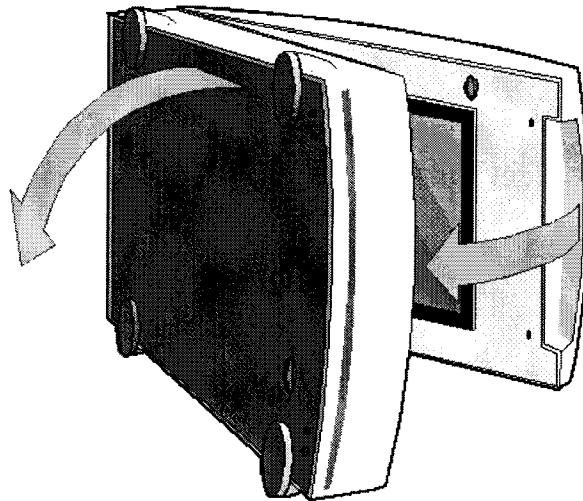

Fig. 2.6
6. Move the transparency module towards the body and turn the densitometer upright (Figure 2.6).